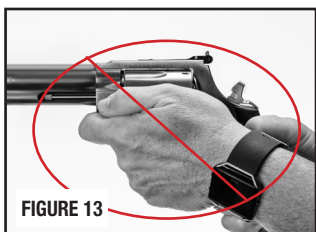

FIGURE 13
- Never allow hands or fingers to extend beyond the front of the cylinder when firing (FIGURES 13 and 14). This is an improper hold for any revolver.